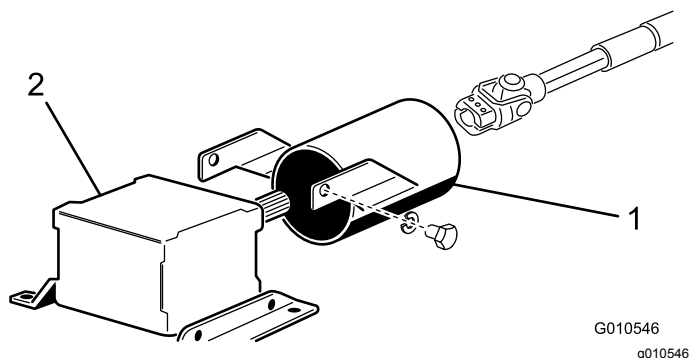

Figure 8
1. Remove the 2 capscrews and lock washers that secure the PTO guard mounting brackets to the gearbox (Figure 8).
2. Slide the PTO shaft guard onto the PTO shaft, positioning the guard as shown in Figure 8.